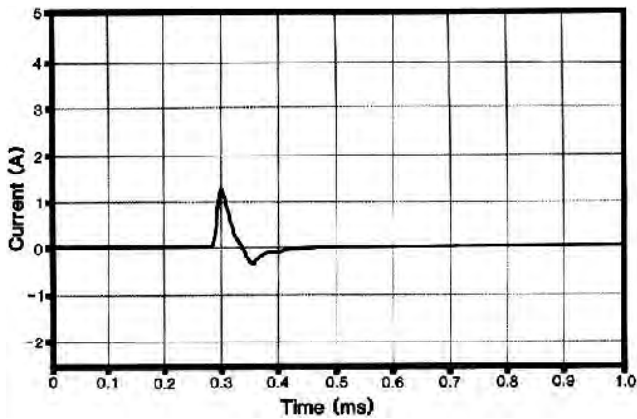

FIGURE 19. Dry Condition Current Output.
**Shock Intensity:** Current output for dry and wet conditions are shown in FIGURES 19 and 20.